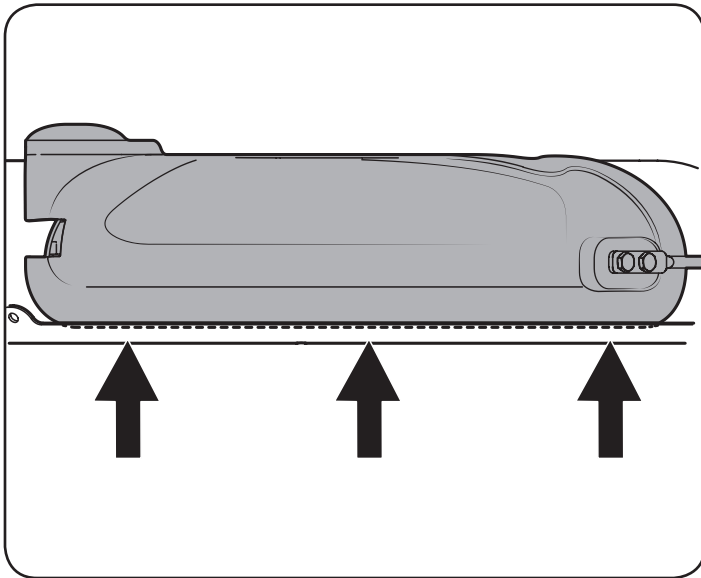

Figure 5
2. To install the mulch plug, pivot the discharge chute upward. Refer to Figure 5: